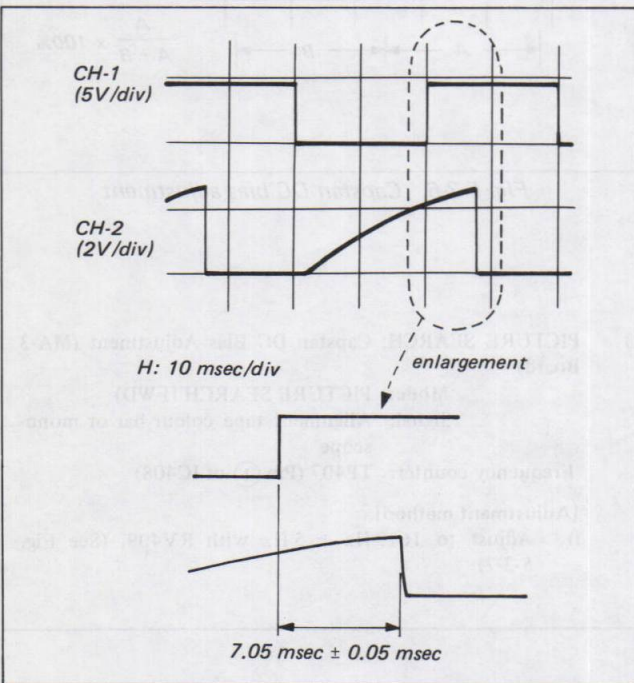

Fig. 5-3-8. Tracking center adjustment
- ii) Adjust to $7.05 \text{ msec} \pm 0.05 \text{ msec}$ with RV414. (See Fig. 5-3-8)